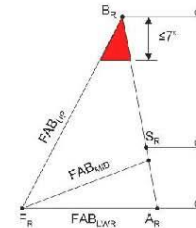

Figure 2
(B) External Switch – The external switch must be mounted on the driver's right side of the vehicle, on a panel between RRH and Rear Bracing within the red area, and behind the plane of the main roll hoop (see Figure 2). The switch cannot be more than 177.8 mm (7 inches) vertically below point Br. The switch must be within easy reach of track workers. The switch must be mounted rigidly, with no sharp edges in that area.